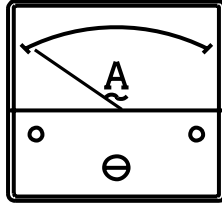

Figure 46. Ammeter (No Load)
11. The ammeter (Figure 46) will indicate **zero amps** with no load applied. When a load is applied, the ammeter will indicate the amount of current that the load is drawing from the generator.